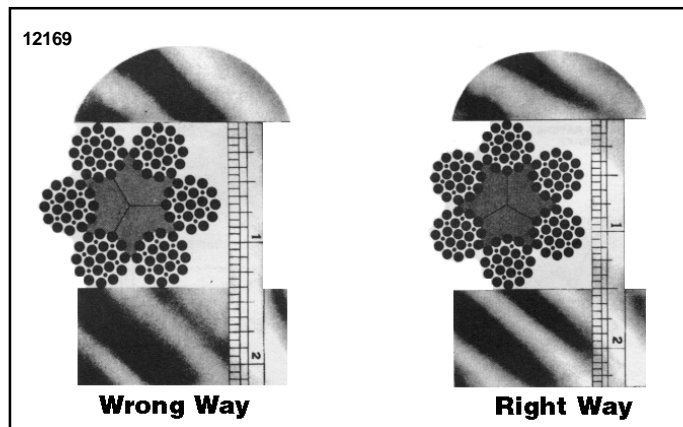

Figure 8-2. Correct Method of Measuring Rope
(1) Reduction of rope diameter due to loss of core support, internal or external corrosion or wear of outside wires from nominal diameter of more than 3/64 inch (1.19 mm) for diameter to and including 3/4 inch (19.05 mm). Correct method of measuring hoisting rope is shown in Figure 8-2.